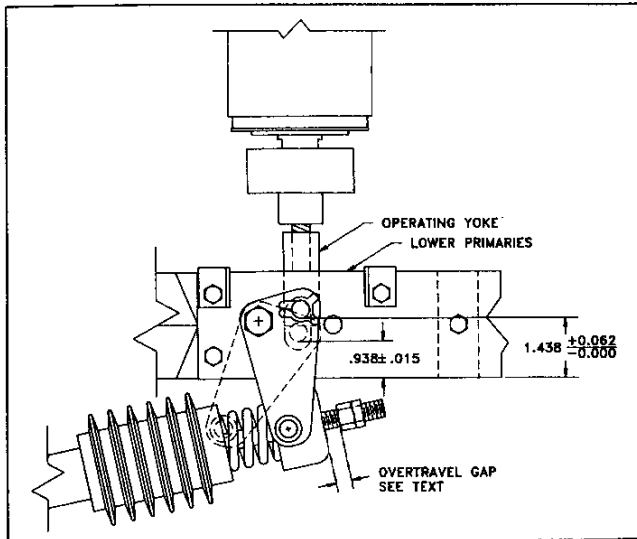

Figure 2. Operating Yoke Adjustments
operating yoke should be $1.438 + 0.062 - 0.000$ " above the bottom of the lower main primary disconnect bars. See Figure 2.
- d. As explained in the description of the mechanism operation, when the breaker is closed a gap will exist between the contact loading spring yoke and the nut on the push rod stud, Figure 2. With a new vacuum interrupter, this gap will be about 1/2 inch. As the contacts erode, the gap will reduce to about 1/8 inch.
(3) Primary Resistance Values